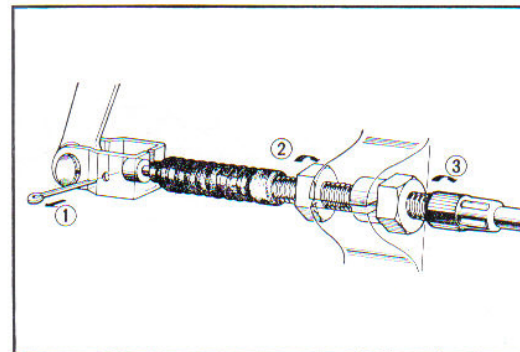
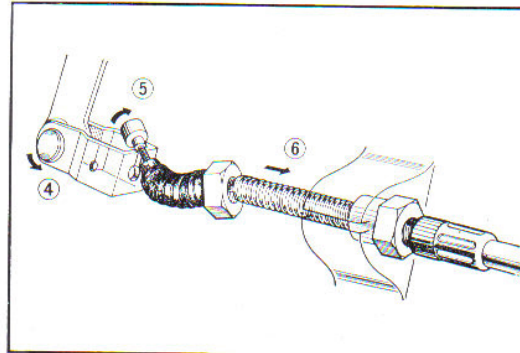

Fig. 4.2 Removing brake cable
Fig. 4.3 Removing brake cable
1. Disconnect the front brake cable at the lower end by loosening the front brake adjusting bolt nut, move the brake arm toward the braking position to providing slack to the cable, and then disconnect the cable from the brake arm. (Fig. 4.2 and Fig. 4.3)